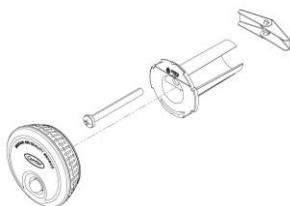

Figure 1
1. Drill a hole of dia 25mm (1") and mount the Multi Sensor grommet (Figure 1) using a toggle bolt grommet. Make sure the level lines on the gromet are parallel to the floor.